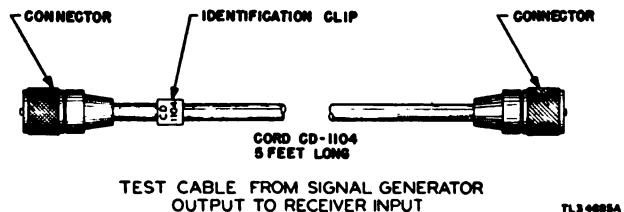

Figure 91. Cord CD-1104.
e. Turn the SELECTOR switch of the interconnector unit to the STANDBY position. Remove the antenna cable, or, if it is connected, remove the T-connector, containing the short antenna and dummy antenna, from the ANTENNA receptacle. Leave the signal generator set at the value just determined and connect its R-F output to the ANTENNA receptacle by means of the r-f test Cord CD-1104 (fig. 91).